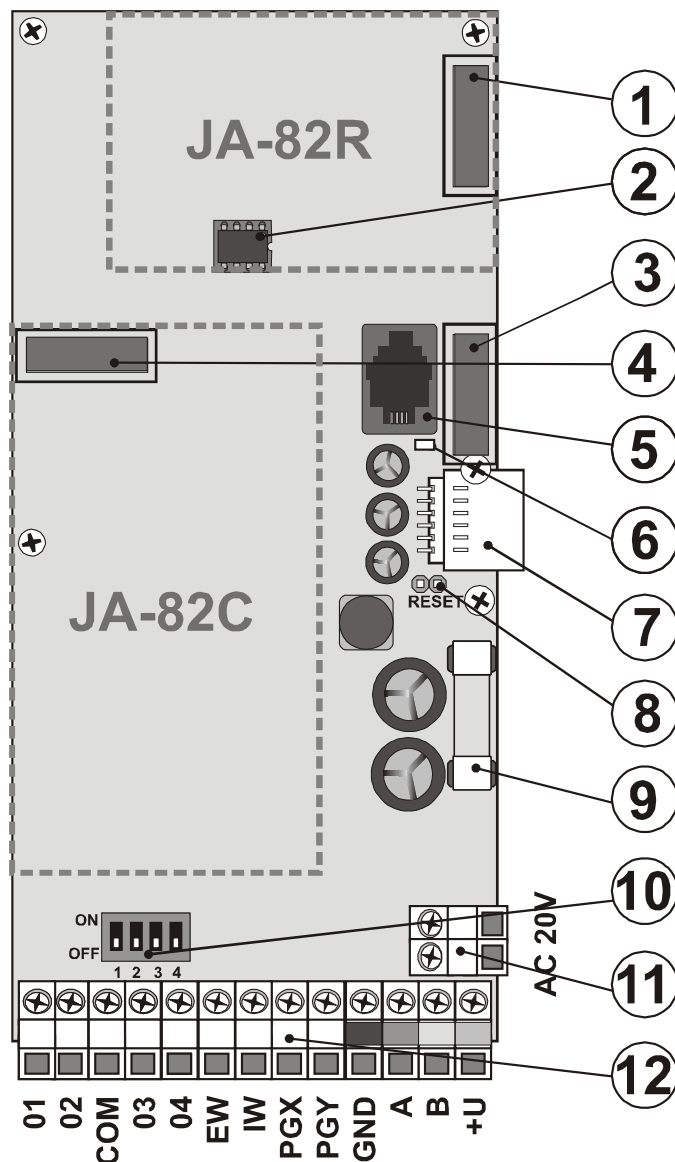

fig. 1 Control panel main board
The JA-82R radio module is installed in position 1 (see fig. 1). The antenna is included in the JA-82R package and it should be screwed on to a plastic post (see fig. 17, pos 5). The antenna connector connects to the pins on the JA-82R module. The module installation enables the system to enroll up to 50 wireless devices.